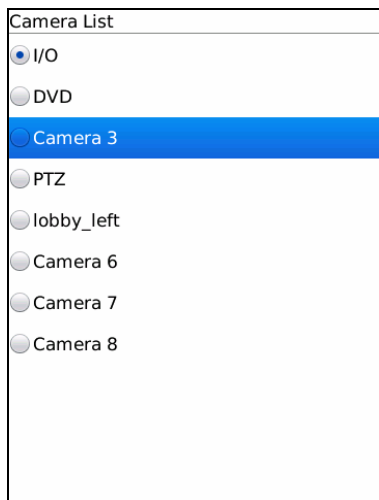

Figure 8-76
1. On the Settings page (see Figure 8-76), select **RPB** and click **Submit**. This page appears.
1. On the Settings page (see Figure 8-76), select **Last 10 Video Files** and click **Submit**.